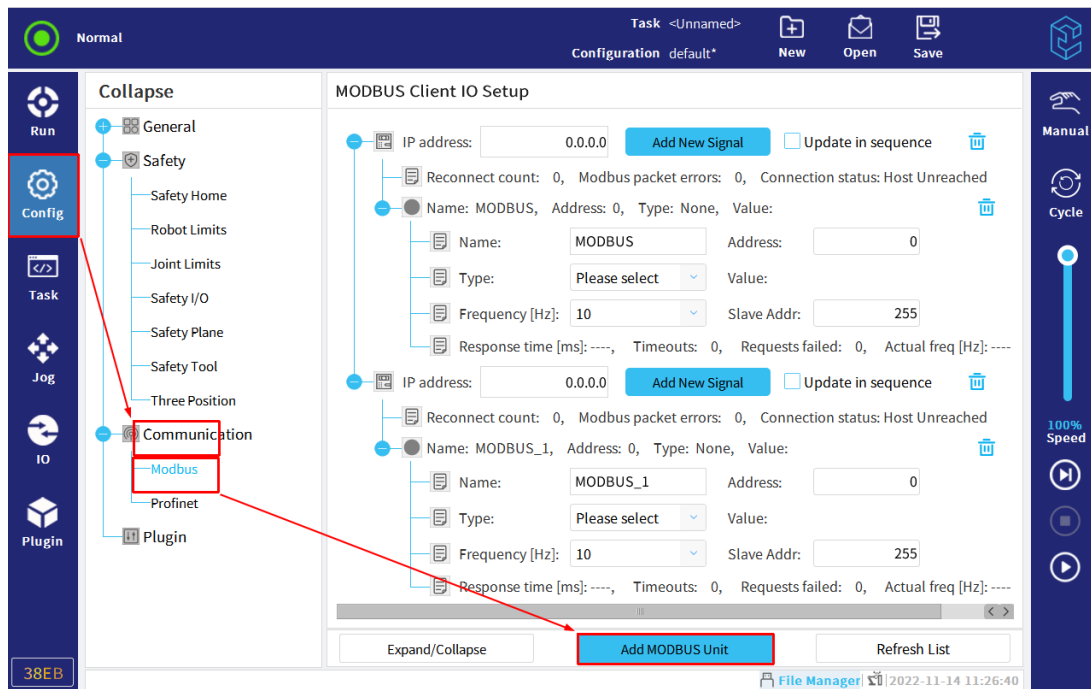

Figure 3-73 : Modbus
1. Click "Config > Communication > Modbus" to enter the "MODBUS Client IO Setup" interface, as shown in **Figure 3-73**.